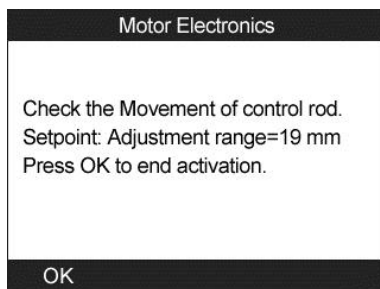

Figure 13.37
- b) Select **OK** to activate swirl flaps and the tool displays as below. (Figure 13.37) Press **OK** button to end the activation and exit.